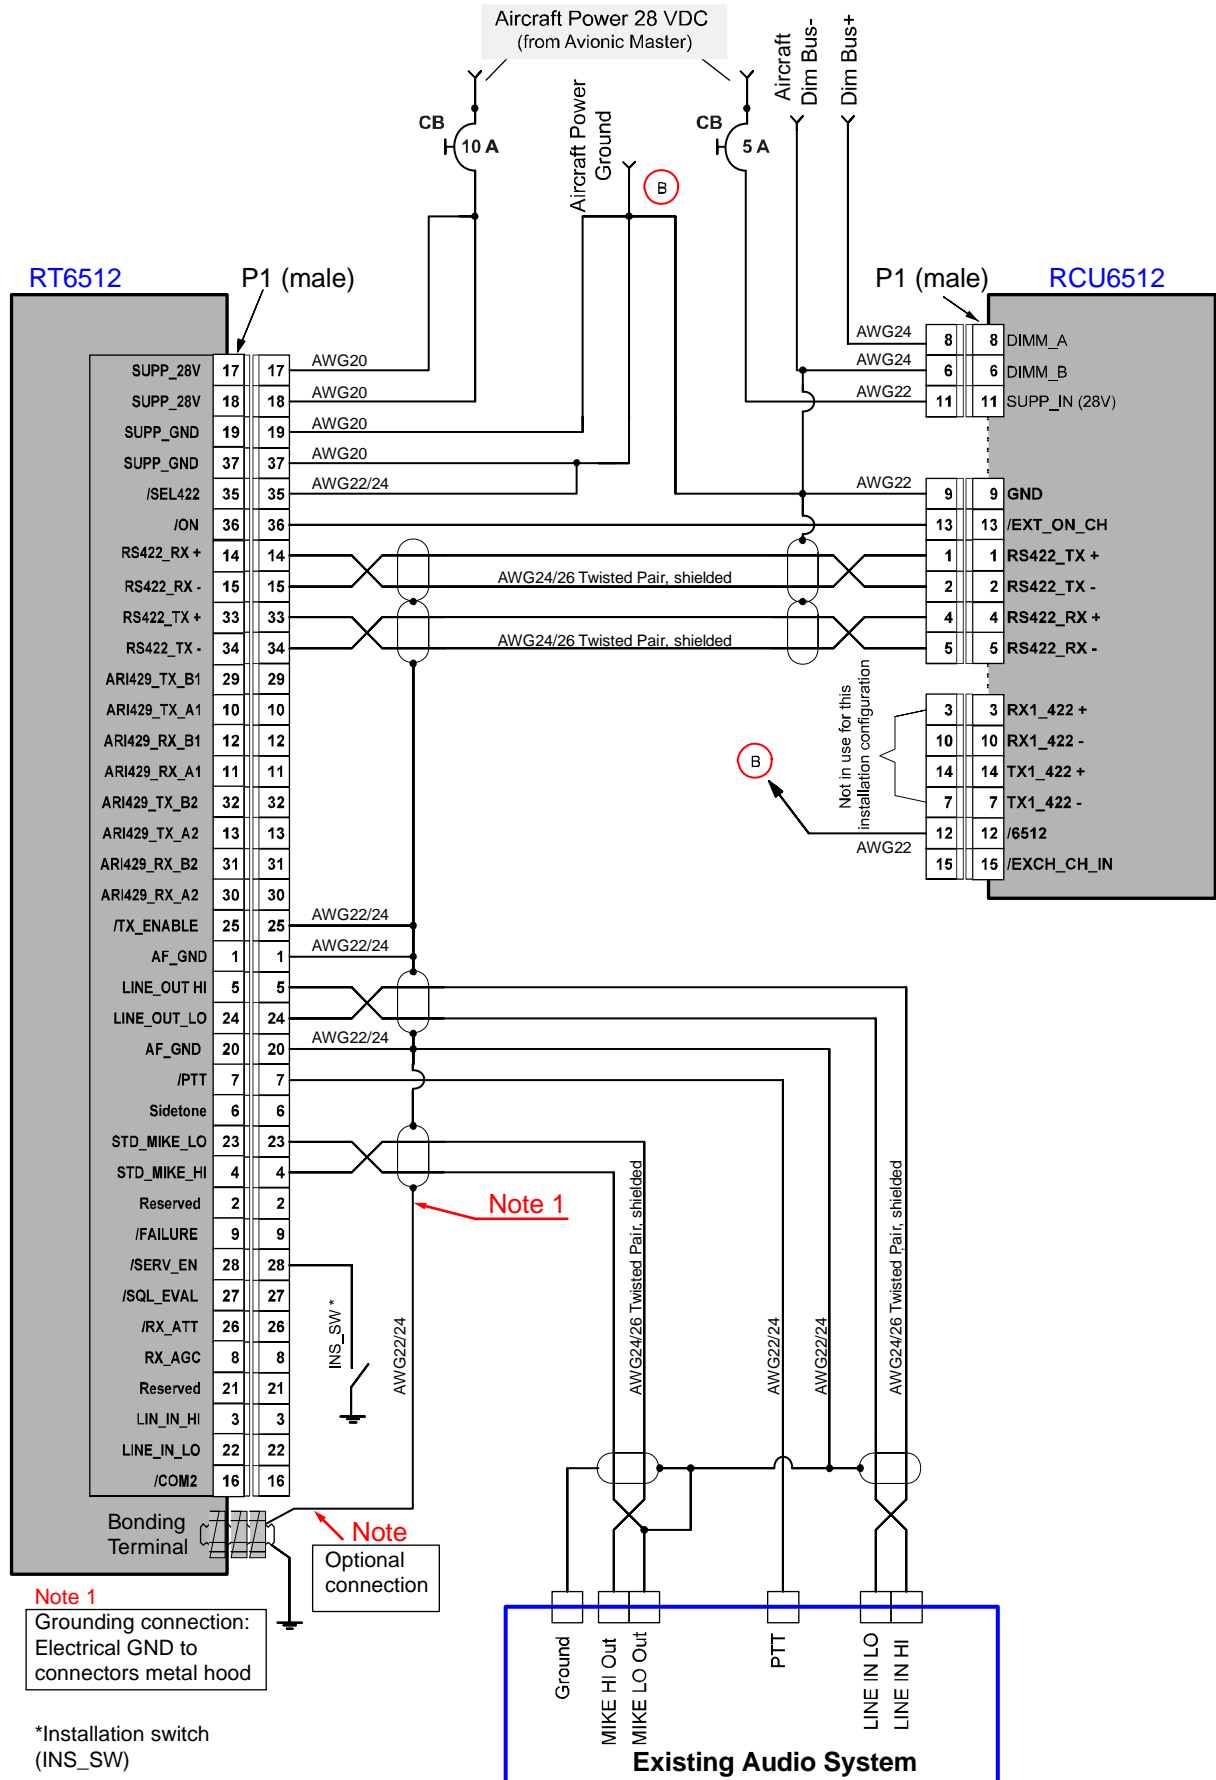

Figure 18: Wiring - RCU6512-(1XX) as Primary Controller with RT6512
* For details see "Figure 18: Wiring - RCU6512-(1XX) as Primary Controller", page 43).
<p>Notice: The change of RT6512 installation parameters is only possible when installation switch* ("INS_SW" to GND) is closed. For details see e.g. wiring "Figure 18: Wiring - RCU6512-(1XX) as Primary Controller", page 43 or "Wiring -Two RCU6512-(3XX) for Tandem Operation with RT6512", page 45.</p>
<p>Figure 31: "RT MOD_LIMIT"</p>	<ul style="list-style-type: none"> • Push rotary encoder push button. • The display shows "RT MOD_LIMIT". <p>Notice: "RT MOD_LIMIT" is shown only when installation switch* is closed ("INS_SW" to GND). For details see e.g. wiring "Figure 18: Wiring - RCU6512-(1XX) as Primary Controller", page 43 or "Wiring -Two RCU6512-(3XX) for Tandem Operation with RT6512", page 45.</p> <ul style="list-style-type: none"> • The "RT MOD_LIMIT" setting is for audio input sensitivity adjustment. <ul style="list-style-type: none"> ○ Minimum value of 5 dB correspond to minimum sensitivity (approx. 3 V_{RMS} at "MIKE_IN" and 6 V_{RMS} at "LINE_IN" to achieve 70% modulation) ○ Maximum value of 31 dB corresponds to maximum sensitivity (100 mV_{RMS} at "MIKE_IN" and 200 mV_{RMS} at "LINE_IN"). <p>Notice: Pay special attention when setting the input sensitivity.</p> <ul style="list-style-type: none"> • Start adjustment from the minimum. • Speak into the microphone as loudly as you would normally talk (do not shout). Maintain a constant voice level to record the modulation depth measurement. • Obey (measure) the modulation coefficient of the transmitted signal and increase the setting until the modulation depth is approximately 80...85%. • If the recipient of the transmitted message notices a "metallic" sound, the input limit is possibly exceeded. In this case the value of RT MOD_LIMIT must be decreased.